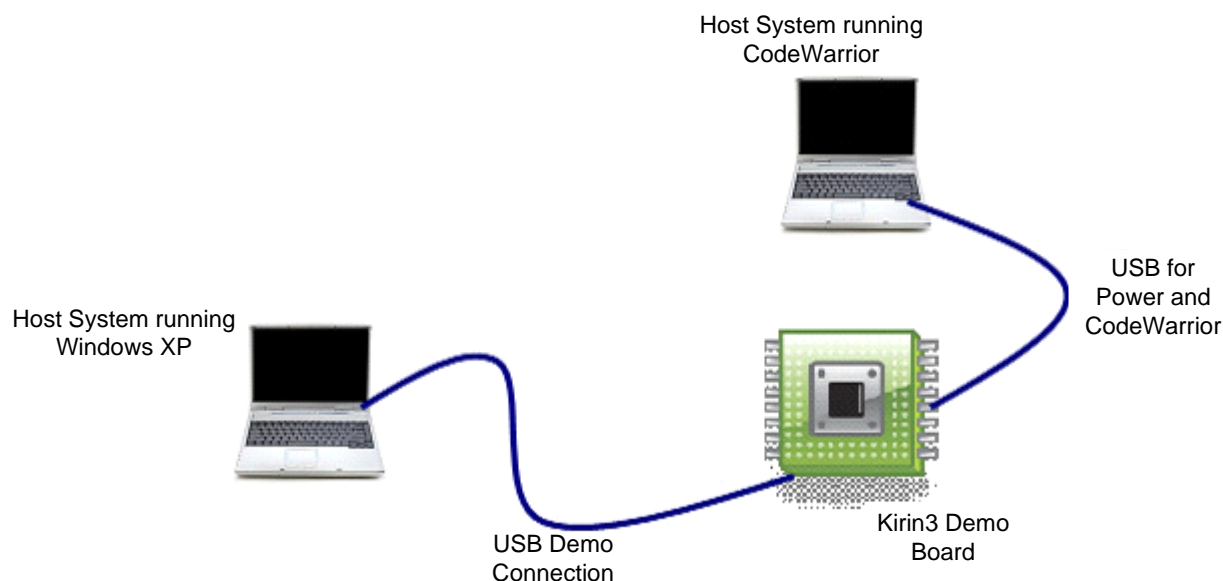

Figure A-1. Hardware setup
- Make the connections as shown in Figure A-1. Shown here is hardware setup for MCF52259 Demo board.
Although we have used two personal computers in Figure A-1, in reality, you may achieve the same result by a single personal computer with two or more USB ports.